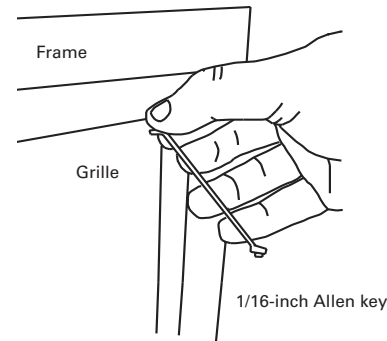

Figure 20: Removing the Grille
1. Insert the small end of the included 1/16-inch Allen key into one of the metal mesh holes in the top corner of the grille, as shown in Figure 20.